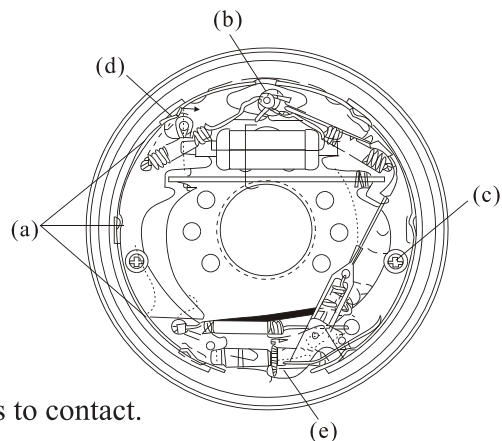

Fig. 5-14
(4) Apply heat-resisting grease on the points indicated in Fig.5-14. Using caution so as not to allow the lining to be contaminated with grease.